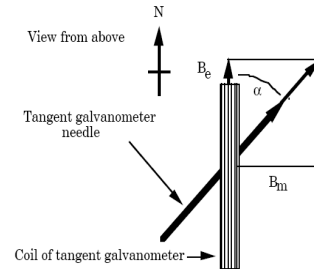

Figure 19: schematic diagram
2. Wire the tangent galvanometer, the current limiting resistor, the Ameter , and the power supply together in a series circuit. (see Fig. (18) The tangent galvanometer has three places to connect wires. Where the wires are connected determines how many loops the current must pass through. Wire the circuit so that the current passes through 5 loops. Have your lab instructor approve your circuit before plugging in the power s u p p l y.
3. Align the tangent galvanometer coil so that it is parallel to the to the earth's magnetic field. (as shown in figure 19) Do this by rotating the dip needle so that it is horizontal and can act as a compass. The coil of the tangent galvanometer should be in line with the "compass" needle which points north-south.